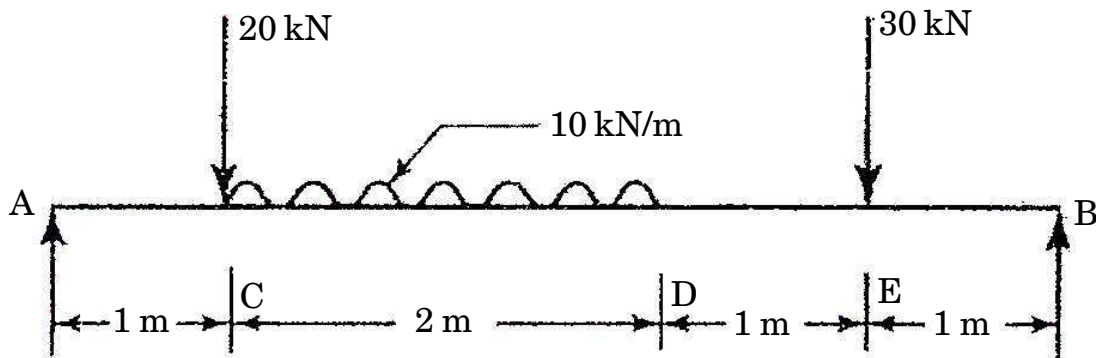

Fig. 4
- (b) Determine the deflections at points C, D and E in the beam shown in Fig. 4. Take $E = 200 \text{ kN/mm}^2$ and $I = 60 \times 10^6 \text{ mm}^4$. Use Macaulay's method. [10]